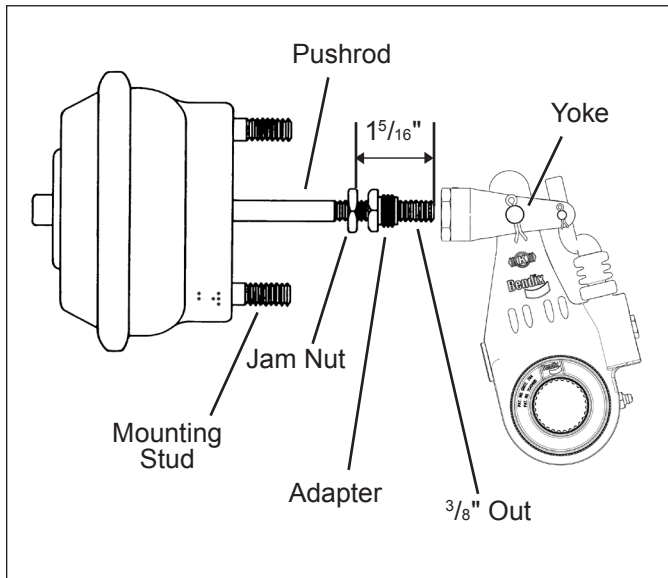

Figure 2 - Easy-On Yoke Assembly
## EASY-ON YOKE (REFER TO FIGURE 2)
- If the Versajust slack adjuster has the easy-on yoke (see Figure 2), position the brake actuator pushrod jam nut approximately  $1\frac{5}{16}$  inches from the end of